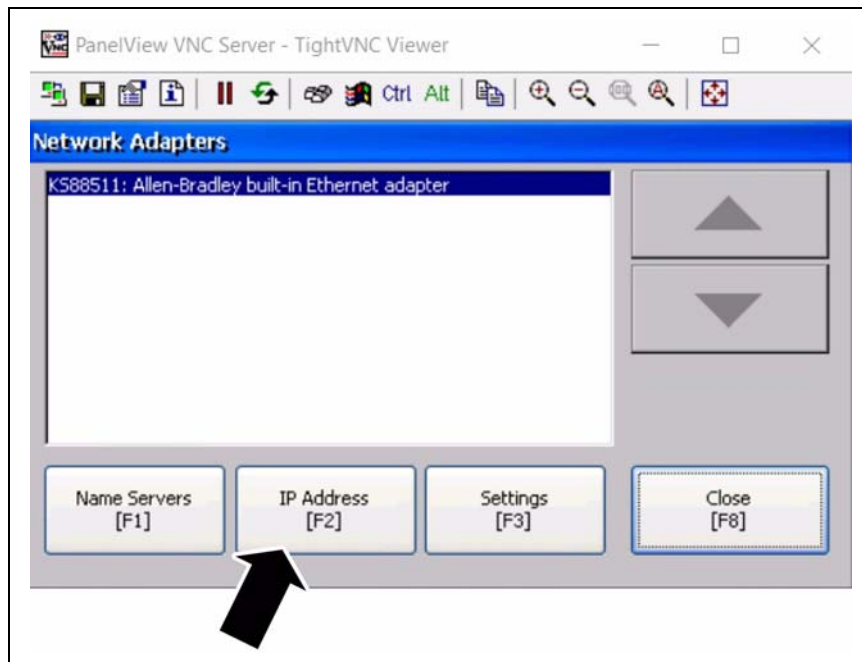

Figure 4E
5. Select IP address to modify the IP or Gateway address of the PanelView. (See Figure 4E.)